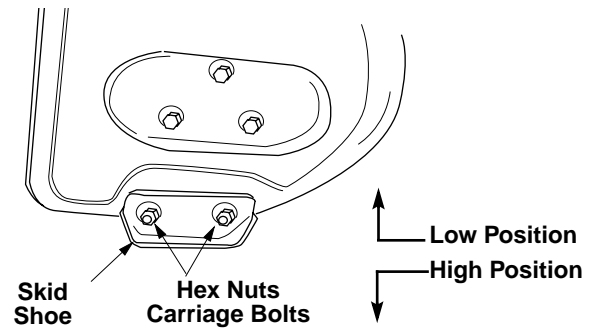

Figure 19
1. Place skid shoes in the low position to remove snow close to the ground. Place skid shoes in a higher position to remove snow from uneven ground. See Figure 19.